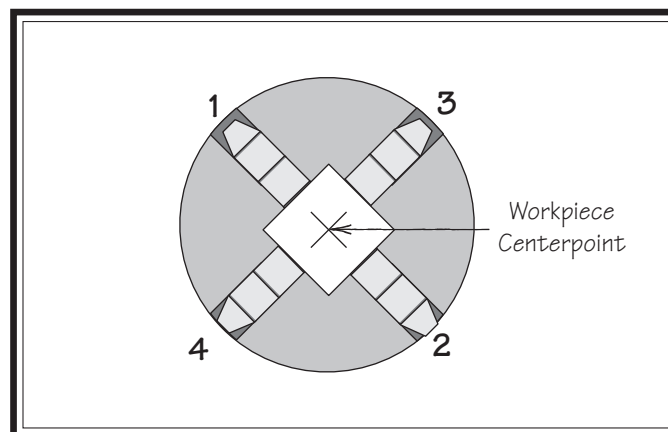

Figure 28. 4-jaw tightening sequence.
5. Tighten each jaw in small increments. After you have adjusted the first jaw, continue tightening the remaining jaws in an opposing sequence, as shown by the sequential order in **Figure 28**.